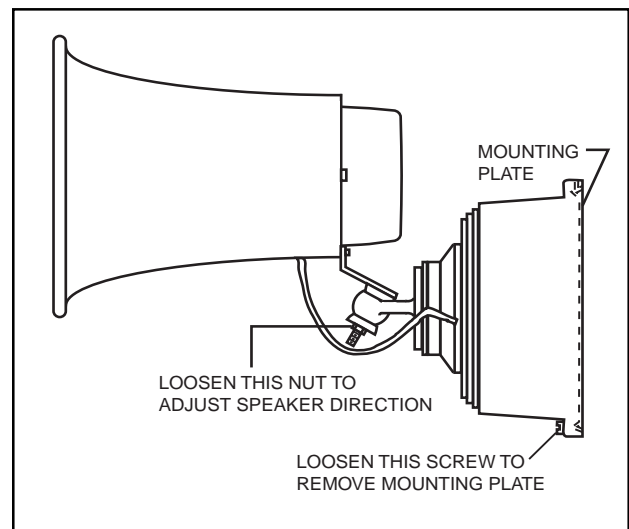

Figure 2. Mounting Plate Removal and Speaker Directional Adjustment
- See Figure 2. Loosen the screw at the bottom of the signal housing and remove the mounting plate from the signal.
To adjust the speaker direction, loosen the nut shown in Figure 2. Rotate the speaker to the desired position and then tighten the nut. The speaker position can be adjusted within a 90 degree range vertically and 180 degree range horizontally.